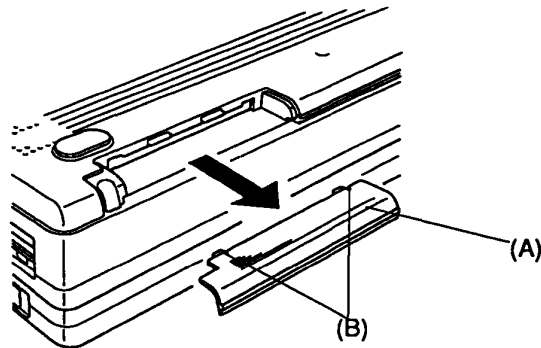

Figure 4-3 Removing the memory card slot cover
To remove the T4400SXC's optional memory card, follow the steps below and refer to figures 4-3 and 4-4.
3. Push the notches (B) using narrow object such as the tip of a covered ball-point pen. Then remove the EXP. MEMORY cover (A) as shown in figure 4-3 below.